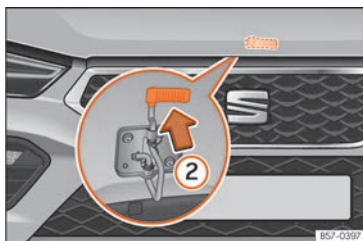

Fig. 220 Cam under the bonnet
- To lift the bonnet, press the release catch under the bonnet upwards »» Fig. 220 ②. The arrester hook under the bonnet is released.